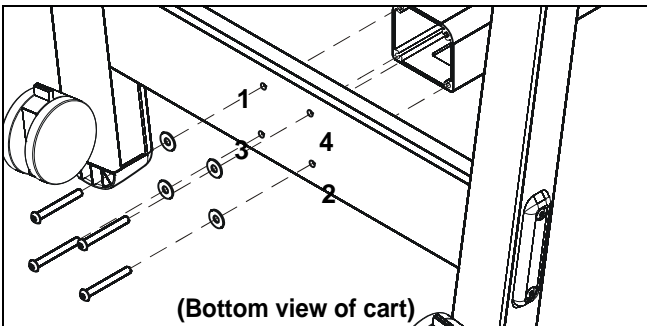

Figure 2
**CAUTION:** Attachment holes may be damaged if a power drill is used to insert button head cap screws. Screws should first be inserted and turned **BY HAND** with the hex key or with a handheld screwdriver **BEFORE** using the hex head drill bit (Q) and power drill to complete the attachment.
**NOTE:** Insert and turn screws in order shown (1, 2, 3, 4) in Figure 2.
2. Attach center post (C or D) to leg assembly using four 5/16-18 x 2-3/4" button head cap screws (M) and four 5/16" washers (P). (See Figures 2 and 3)